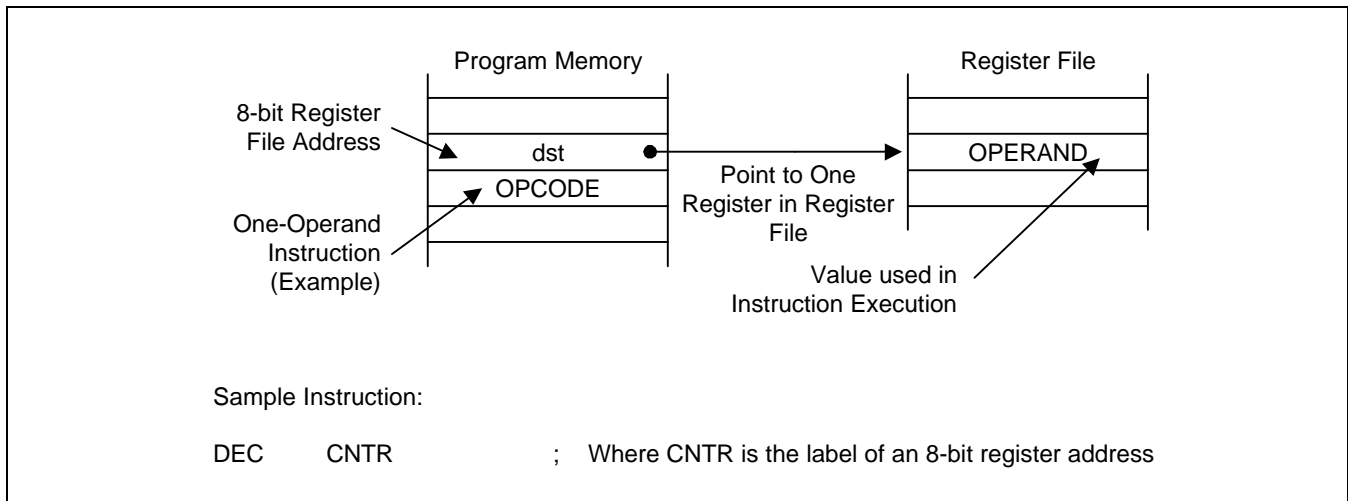

Figure 3-1. Register Addressing
In Register addressing mode (R), the operand value is the content of a specified register or register pair (see Figure 3-1).